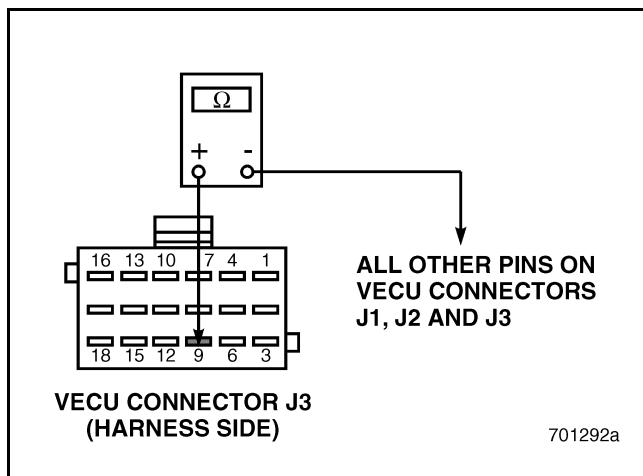

Figure 581
3. Check for continuity between VECU connector J3 pin 9 and all other pins on VECU connectors J1, J2 and J3 (see Figure 581).